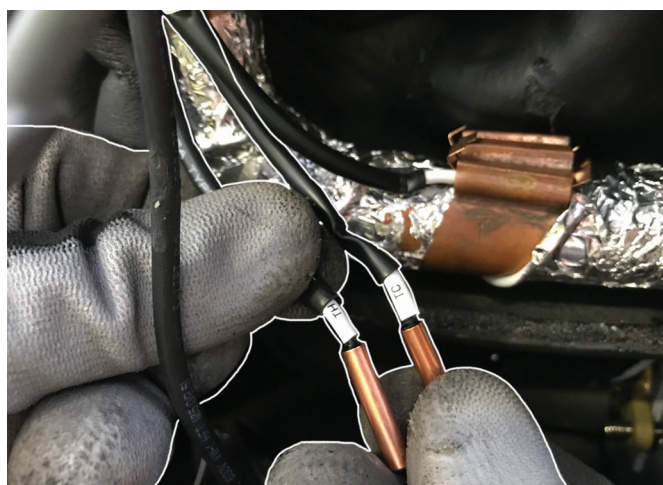

Figure 5-16 - “Tc” and “Th” sensors
- 5.- Remove “Th” and “Tc” sensors (identified by a label on the probes) from their position (Figure 5-16);